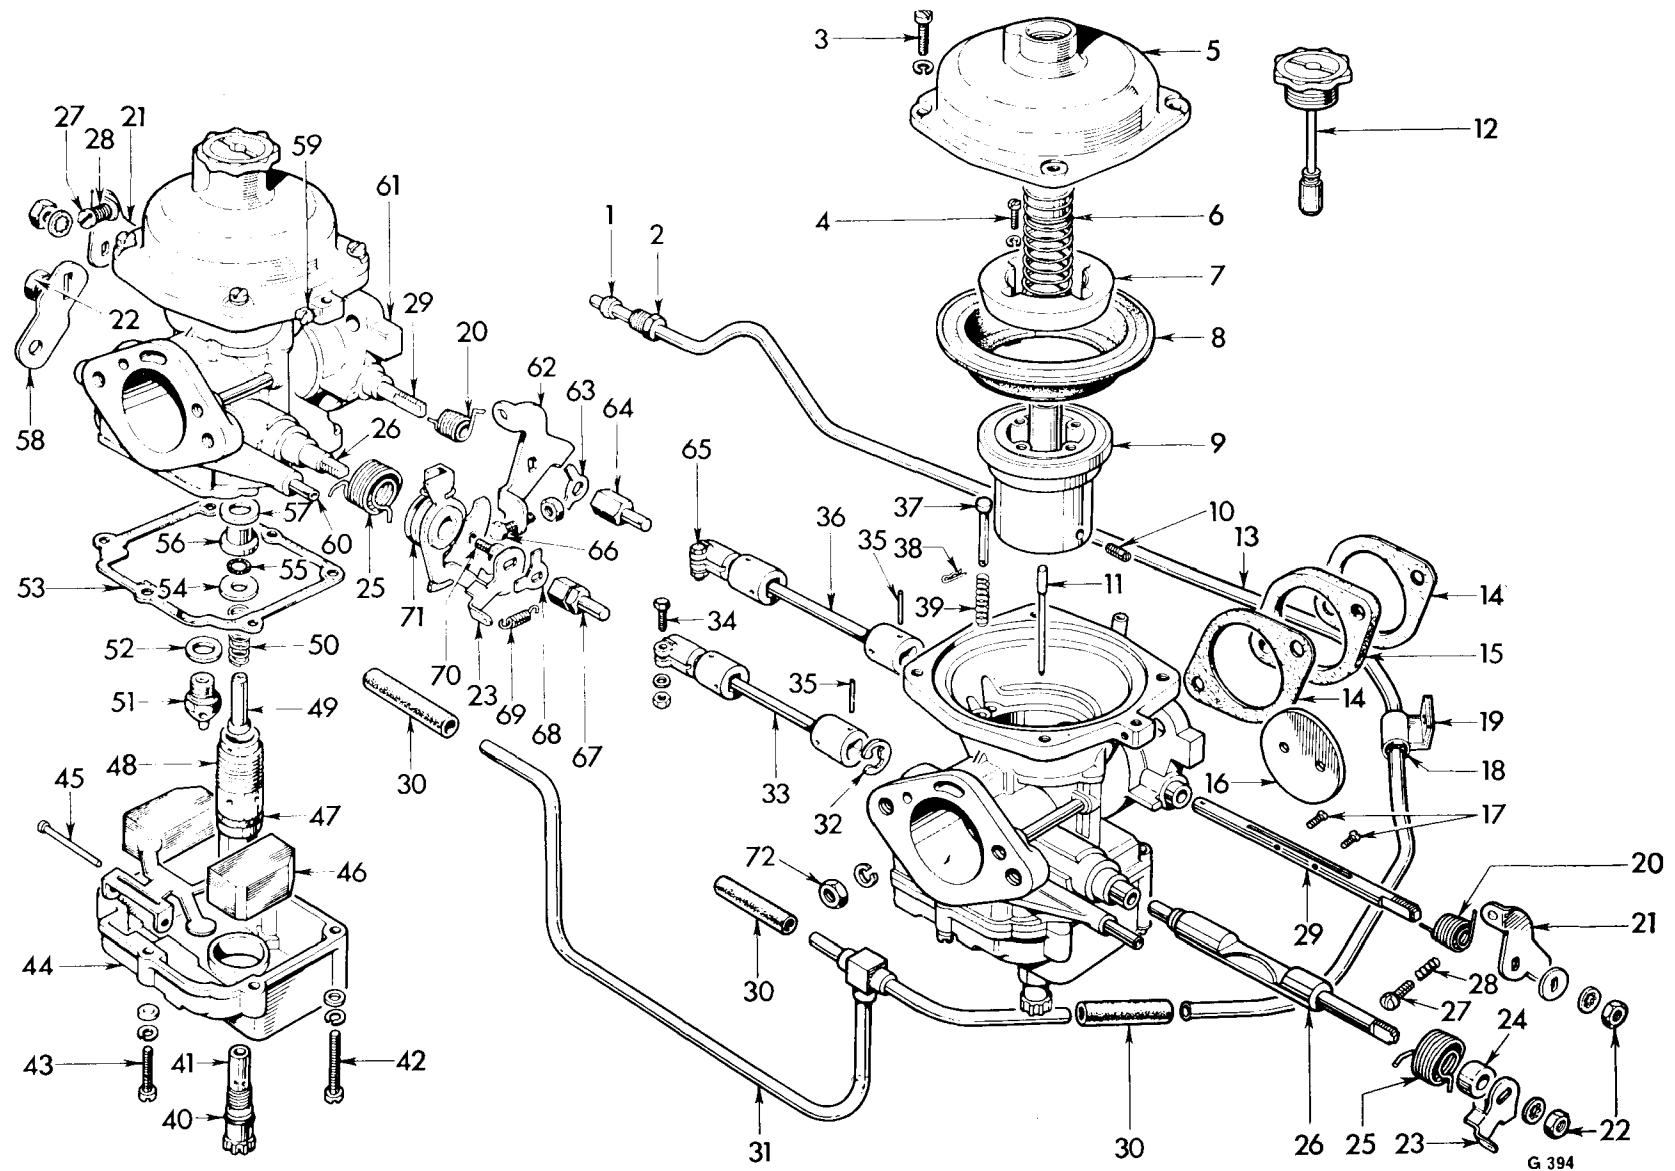

Fig. 2. Carburettor details
Key to Fig. 2
16. A locating tab is moulded on the inner and outer peripheries of the rubber diaphragm (8). These locate in a corresponding recess formed in the top face of the air valve (9) and in the top flange of the carburettor body. To assemble the diaphragm, locate the inner tab in the air valve recess and ensure that the inner bore of the diaphragm locates correctly around a shoulder formed on the top face of the valve. Place the retaining ring (7) over the diaphragm, insert the four screws (4) and tighten them securely.
17. Insert the needle (11) into its bore in the lower face of the valve and whilst the shoulder on the needle is held flush, relative to the lower face of the valve, tighten the screw (10). (Fig. 2)
Installation (Fig. 2)